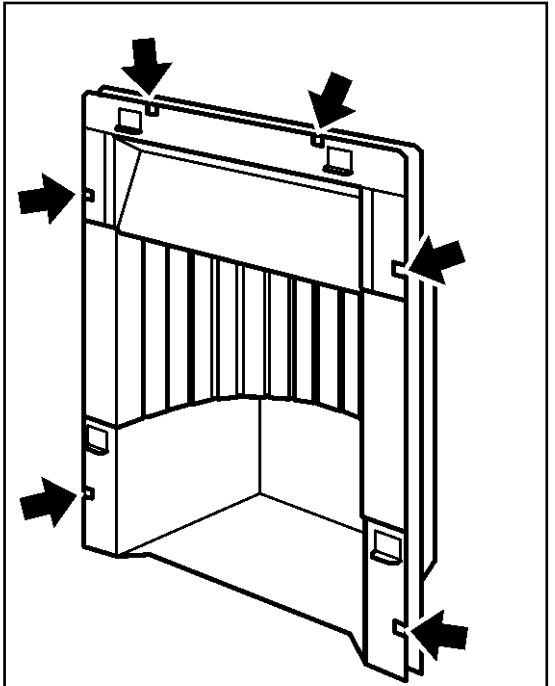

Figure 20. Fitting the edge clips
**13.** Locate the spacer frame to the rear of the hotbox (The foam seal must be to the rear of the spacer frame and NOT against the flanges of the hotbox). Secure the spacer frame to the hotbox using the six edge clips supplied. Position these as in figure 20.